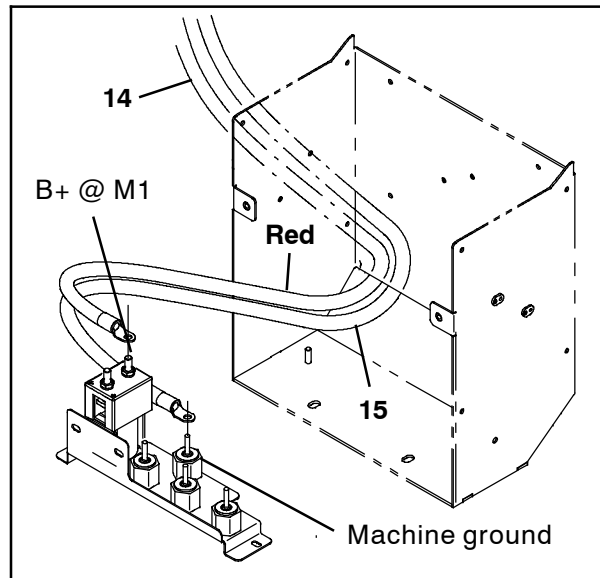

**FIG. 8**
7. Route the battery cable (14) red cable and the black cable (15) down toward the floor and then up along the frame of the machine to the hole in the electrical compartment. (Fig. 8/ Fig. 9)